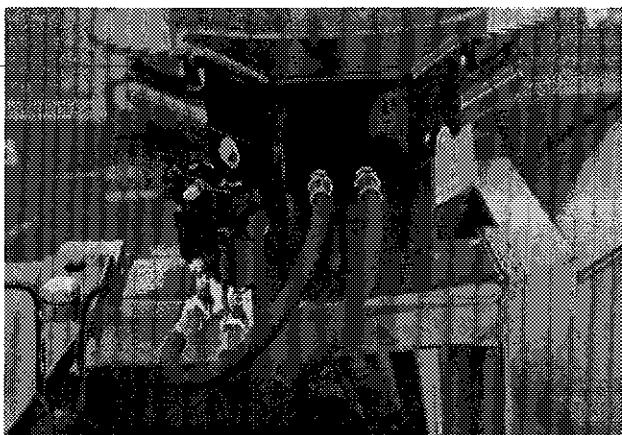

Figure 24
- 4) Install guard and cushion valve support. Then install cushion valve and hydraulic hoses as per Fig. 24.